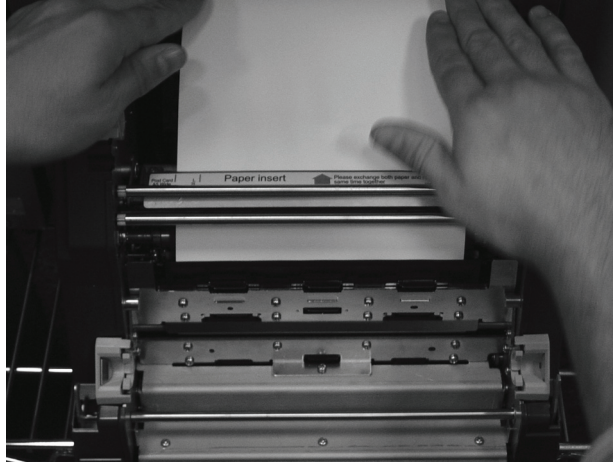

Figure 21. Unthreading the Printer Paper
4. Once the ribbon is removed, gently pull the paper to unwind it from the paper path (see Figure 21).